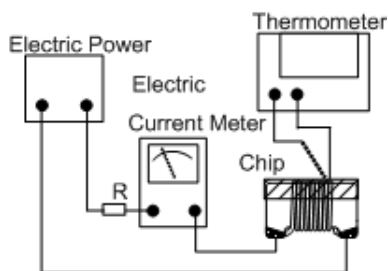

Fig.5.3.5-1
- d. Definition of Rated Current (Ir): Ir is direct electric current as chip surface temperature rose just 20°C against chip initial surface temperature (Ta) (see **Fig. 5.3.5-2**).